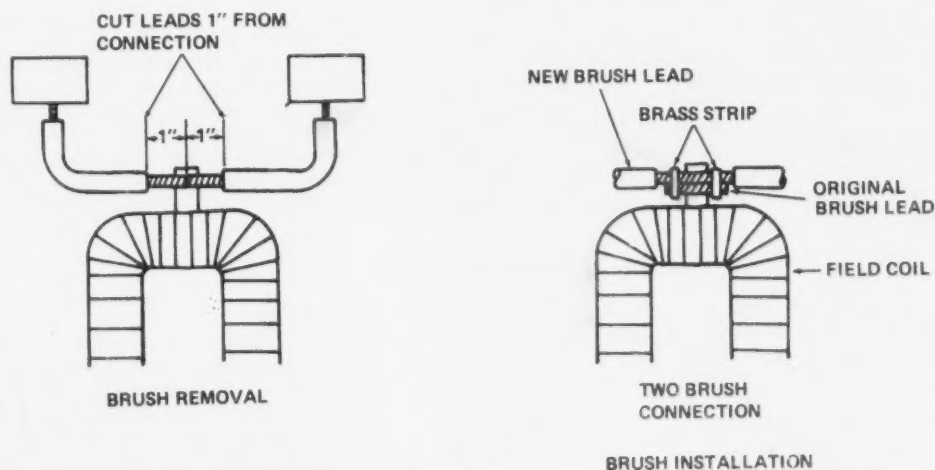

Figure 5-9. Brush Replacement
(1) Before assembly, soak bronze bearing (30) in SAE 10 oil for 15 minutes.
(2) Press bearing (30) into pinion housing (22).
(3) Slide drive assembly (29) onto shaft of armature (27). Install stop and lock ring (28) on the end of the armature shaft (27).
(4) Install thrust washer (21) on the end of the armature shaft (27). Slip yoke (26) onto drive assembly (29) and install both in pinion housing (22). Install pin (25) in pinion housing (22) to hold yoke (26) in place.
(5) If brushes (20) are excessively worn, cut brush leads 1 inch from the welded connection (see figure 5-9). Install new brushes as follows:
(b) Position the new brush lead next to the tinned sections of the original brush lead. Install and crimp the brass strip connectors (included) around both leads to hold the new brushes in place. See figure 5-9.